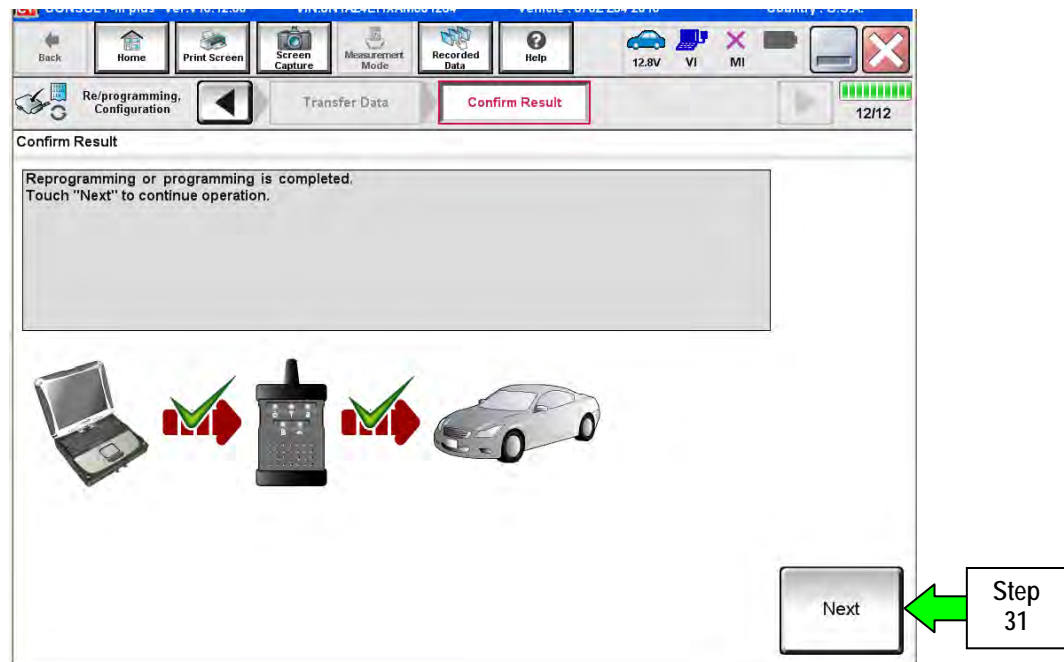

Figure 15
29. When the screen in Figure 15 displays, the reprogramming is complete.
NOTE: If the screen in Figure 15 does not display (reprogramming does not complete), refer to the information on the next page.